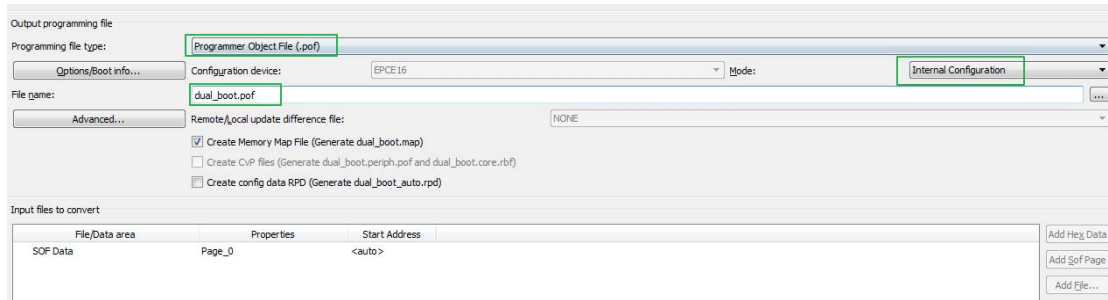

Figure 8-6 Convert File Window Setting
- The next step is to convert the two sof files into a pof file for programming the MAX10 FPGA. Open the convert programming Files tool in Quartus and set as **Figure 8-6**.